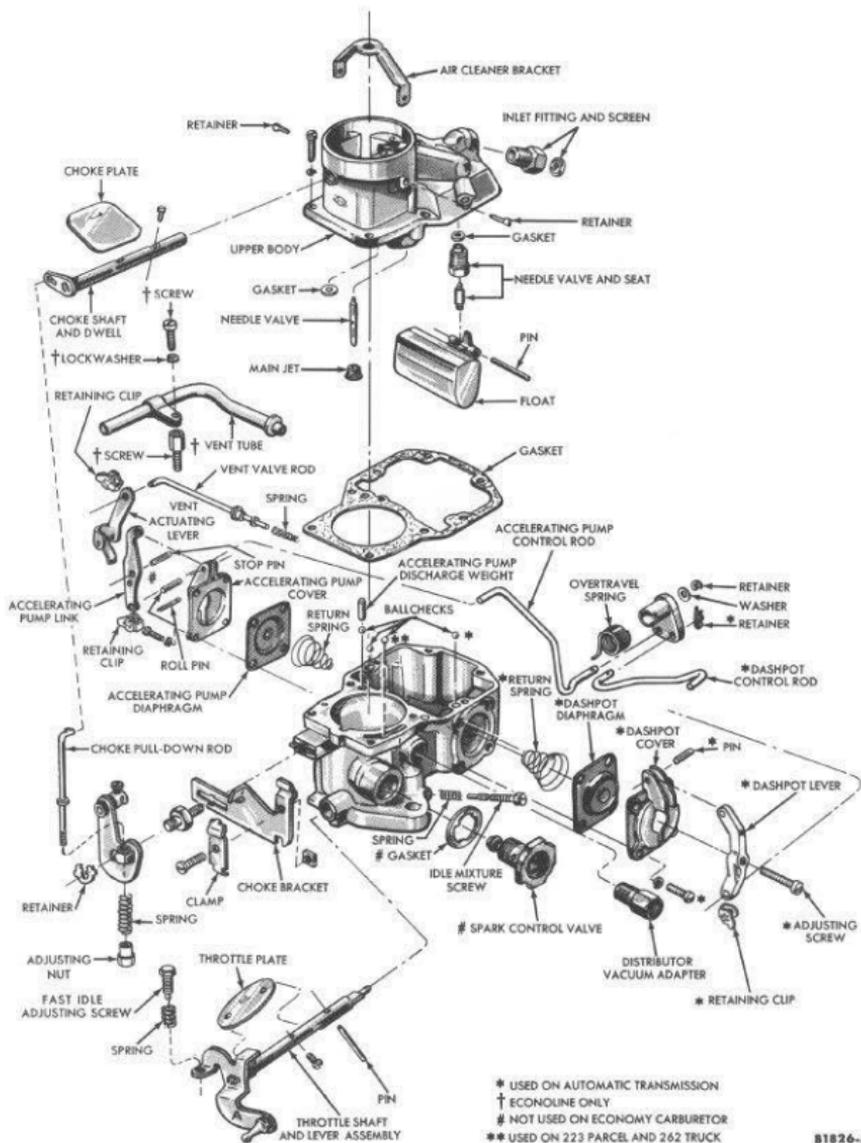

FIG. 37—Single-Barrel Carburetor Without Automatic Choke—Disassembled
**Carburetor Disassembly.** Disassembled views of the carburetors are shown in Figs. 37 and 38. Use a separate container for the component parts of the various assemblies to facilitate cleaning, inspection, and assembly.
**Carburetor Assembly.** Disassembled views of the carburetors are shown in Figs. 37 and 38.